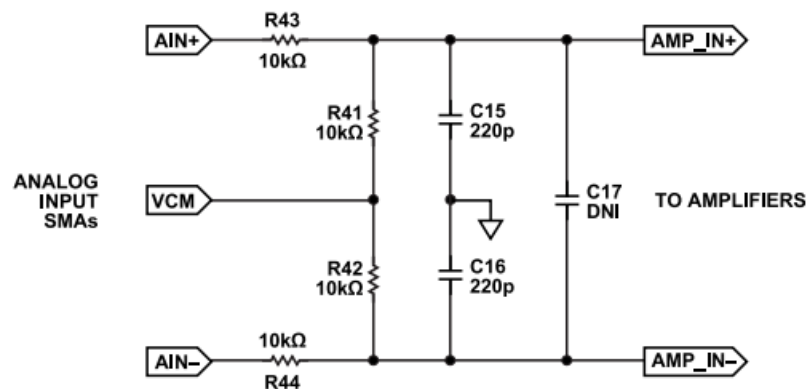

Figure 11. Signal and Common-Mode Inputs and Input Filter
- Passive filter network for signal generator noise and/or anti-aliasing filtering (see Figure 11)